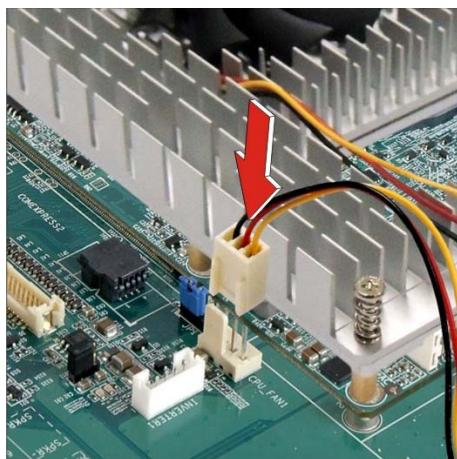

Figure 4-8: Connect to the CPU Fan Connector on the Baseboard
Step 5: Connect the cooling kit fan cable to the CPU fan connector on the baseboard (**Figure 4-8**).